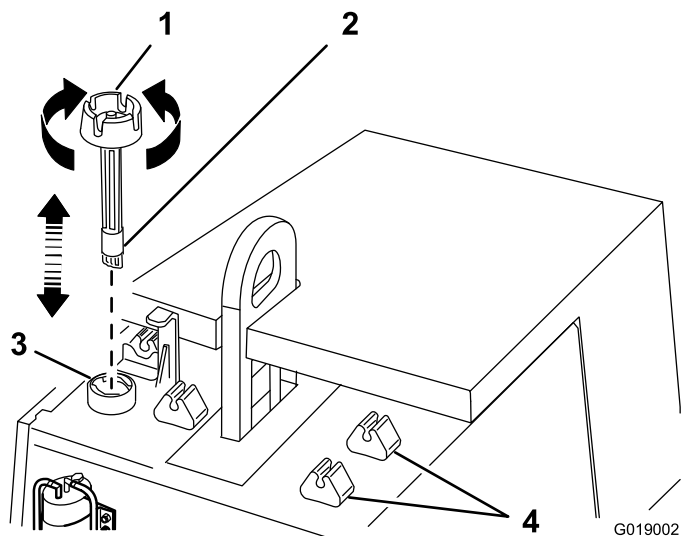

Figure 23
1. Remove the cap for the fuel tank by turning the cap counterclockwise and the lifting the cap up until the quantity sensor is clear of the filler neck of the fuel tank. (Figure 23).
4. Tighten the fuel cap clockwise hand tight (Figure 23).